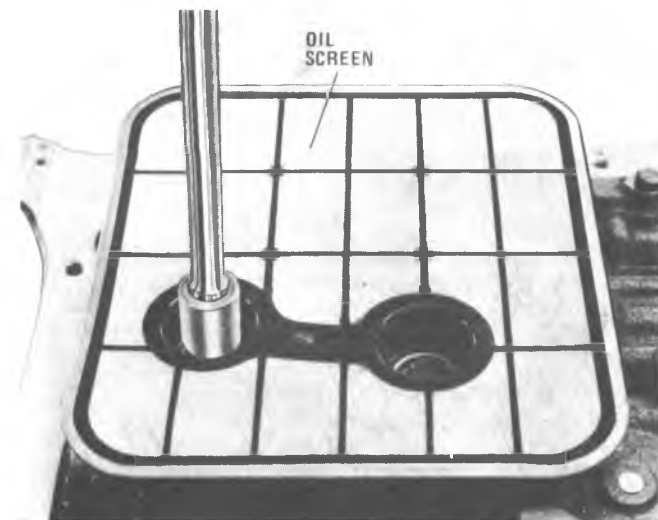

Figure 7A1-17 Removing Oil Screen
5. Remove 1-2 accumulator spring. (Figure 7A1-21).
6. Remove 5th check ball located in case. (Figure 7A1-22).
a. Using small screwdriver, remove governor cover retaining ring. (Figure 7A1-23).